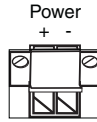

Figure 8. Terminal block power connection
- The power connection to the LB532A-M is a terminal block (see Figure 8 on page 22)